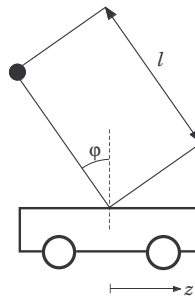

Figure 8.3 Inverted pendulum in exercise 8.5.
- 8.5 When walking, the body is kept in upright position by a regulatory system. This balancing of the body can be simplified to the problem of controlling an inverted pendulum positioned on a cart, by moving the cart. In Fig. 8.3, a schematic of this inverted pendulum is given.